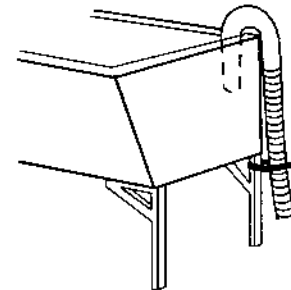

Fig. 6
5. Hook the curved end of the drain hose over the edge of the stand pipe or laundry tub and secure it with a plastic tie. (Fig. 6)